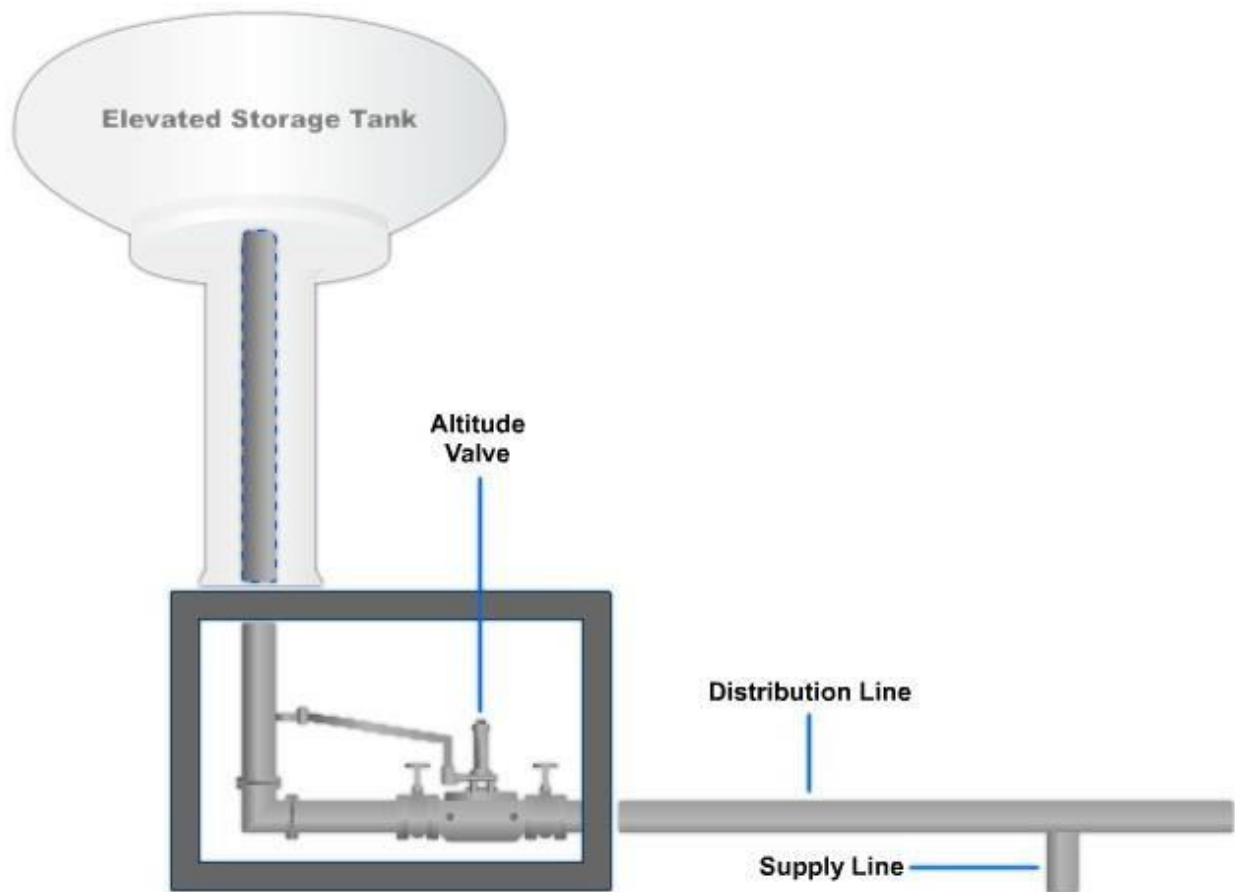

Figure 5-25 — Altitude valve with elevated storage tank.
Altitude valves are used primarily on supply lines to elevated storage tanks. These valves are designed to (1) regulate the water level in the water storage tanks to prevent them from overflowing or running dry, and (2) maintain a constant water level as long as water pressure in the distribution system is adequate. *Figure 5-25* illustrates the altitude valve in relation to an elevated storage tank.